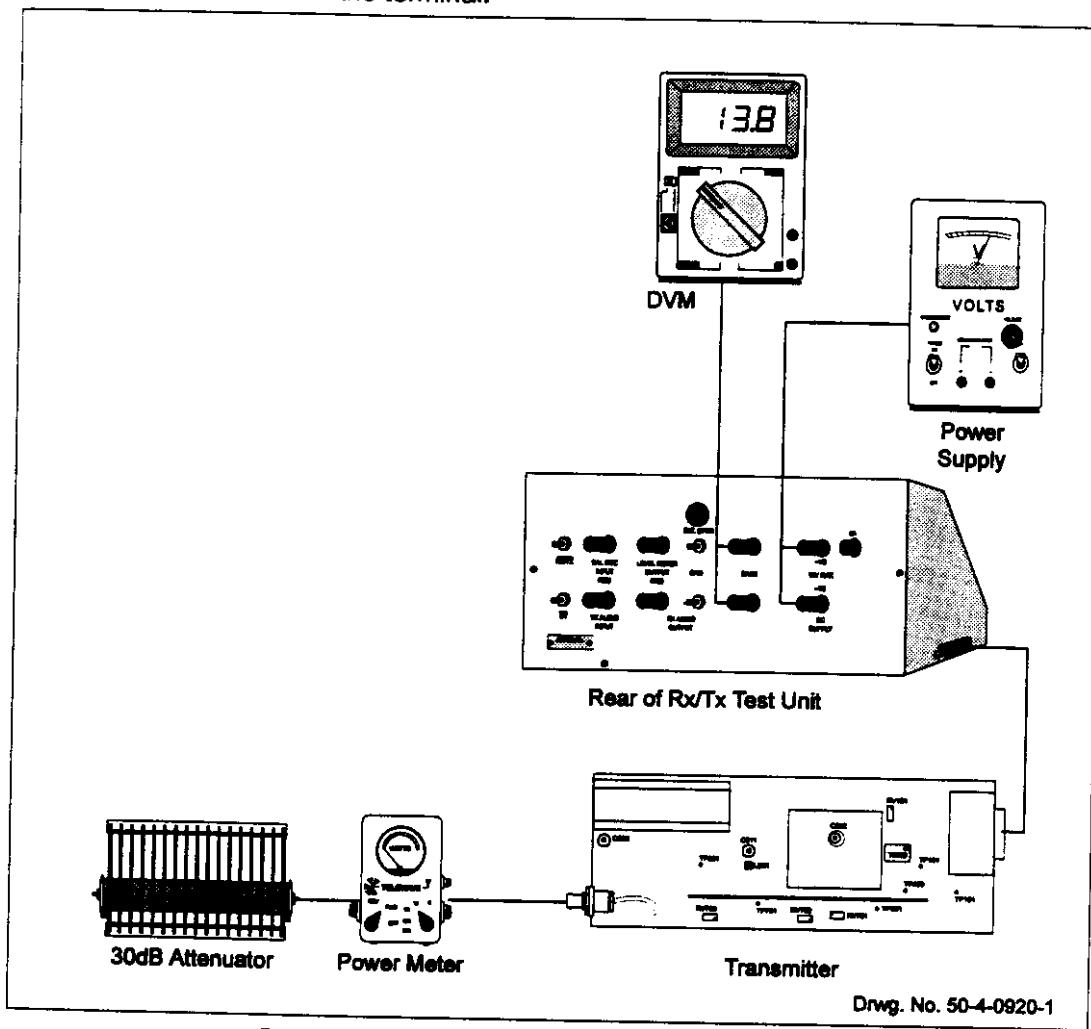

Figure 9.7: Alignment and Functional Checks Set-up
3. Connect the power supply and the digital voltmeter to the Test Unit, and then use a short ribbon cable to connect the Test Unit to the rear plug on the transmitter PCB. Finally, use a short length of co-axial cable to connect the RF output plug on the transmitter PCB to the RF power meter, terminated with a 30 dB attenuator. Refer to Figure 9.7 for connection details.
1. Connect the transmitter PCB to the test equipment as shown in Figure 9.7. Connect the frequency counter to the output of the attenuator. Allow the equipment to be fully warmed up, then turn the modulation down to 0 mVms.
1. Connect the transmitter PCB to the test equipment as shown in Figure 9.7.